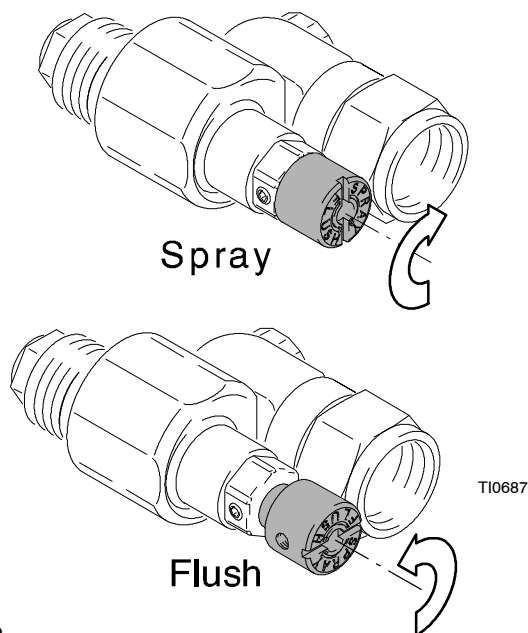

Fig. 2
4. Rotate the spray valve knob counter-clockwise to the out/flush position. Fig. 2.
The CleanShot™ Shut-Off Valve provides two settings: SPRAY and FLUSH. The valve is factory set to the SPRAY position for spraying at pressures above 700 psi (4.8 MPa, 48 bar). Rotate the valve knob counter-clockwise to the FLUSH position for flushing, cleaning, priming and relieving pressure. The FLUSH position is also used for low pressure spraying applications below 1000 psi (6.9 MPa, 69 bar). Fig. 2.